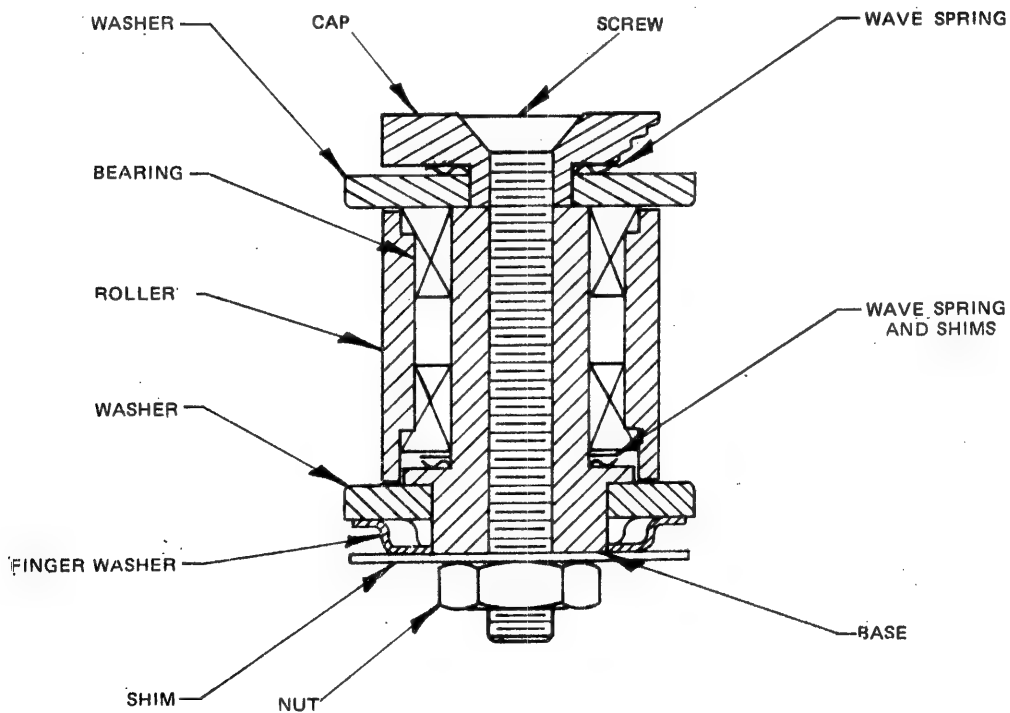

Figure 5-2. Roller Tape Guide
- c. Using new screw provided with replacement roller guide assembly (discard nut and washer), secure roller guide in position. Take care that the springs are properly positioned, as shown in Figure 5-2, before tightening screw.